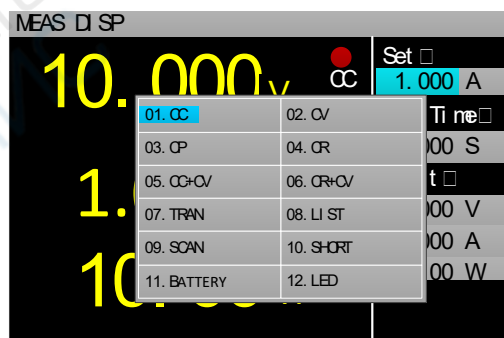

Figure 2.4 Mode selection interface
Electronic load can work in the following basic measurement modes: constant current mode (CC), constant voltage mode (CV), constant resistance mode (CR), constant power mode (CP), constant current to constant voltage mode (CC+CV), constant resistance to constant voltage mode (CC+CR). The parameter settings for the above six modes can be done in the measurement interface. In addition, press [Mode] on the main interface of any mode to enter the mode selection interface, as shown in figure 2.4.